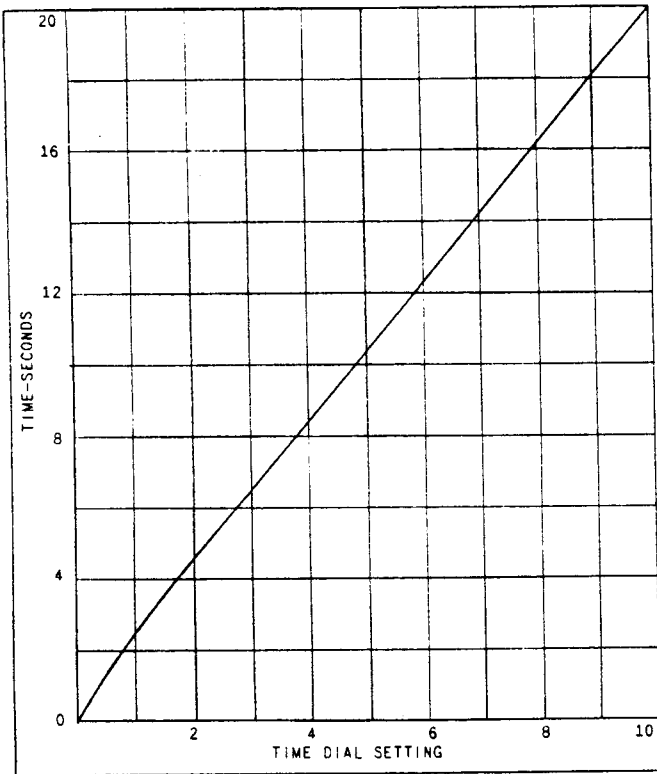

Fig. 6 (K-6400150-2) Operating Time of Type IJS Relay with 20° Closing Angle at 0°, 115 Volts 50/60 Cycles on Both Circuits
Fig. 6 gives the operating time in seconds for various time-dial settings with zero phase displacement and with rated voltage at 60 cycles on both circuits. Curves for 50 cycles are similar. The telephone-type undervoltage units are calibrated
1. Check that the relay picks up with at least 115 volts, 60 cycle single-phase source connected to both operating coils with approximately the time delay shown in Fig. 6.